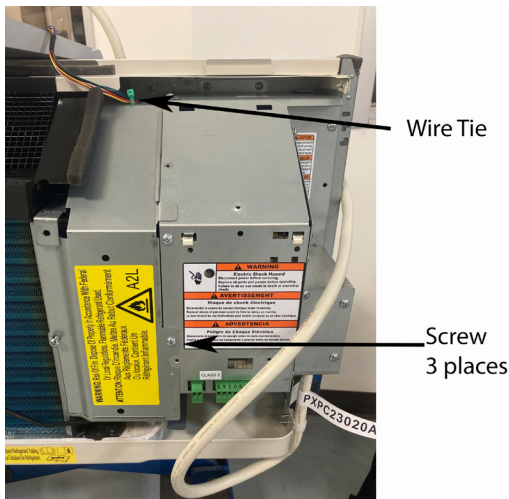

Figure 506
3. Remove left access panel (3 screws and a wire tie.) See Figure 506.